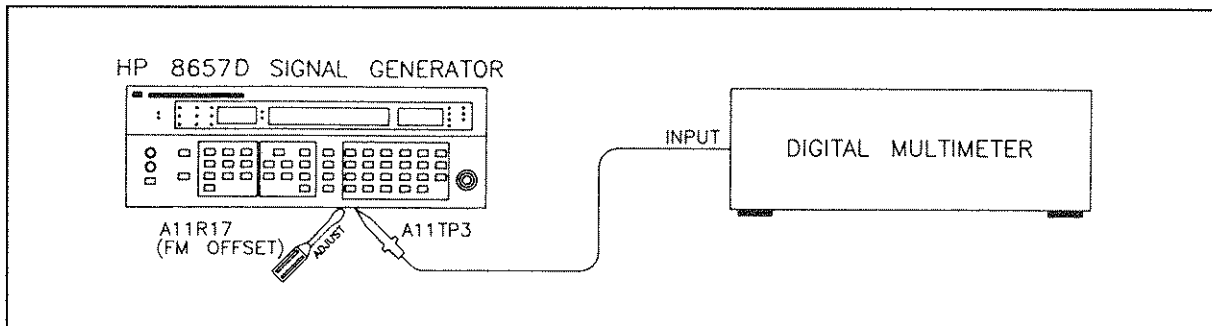

Figure 5-19. DC FM Offset Adjustment Setup
4. Connect the digital multimeter to A11TP3 as shown in Figure 5-19.